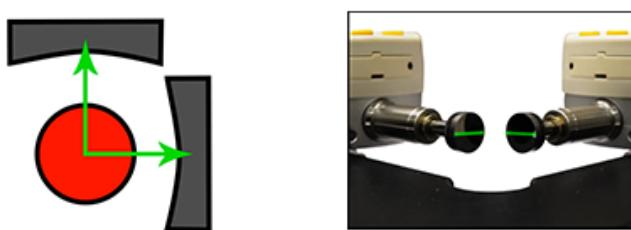

Figure 49
- Use the keypad/mouse to jog in both X and Y-axis with zig-zag movements until the ball is centered with both X and Y-dial indicator contacts (Figure 49).